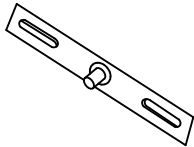

FIGURE 6
- 2.- Assemble lighting onto the outlet box as shown on fig. 6, & 7.